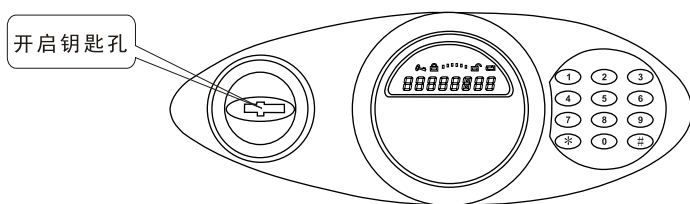
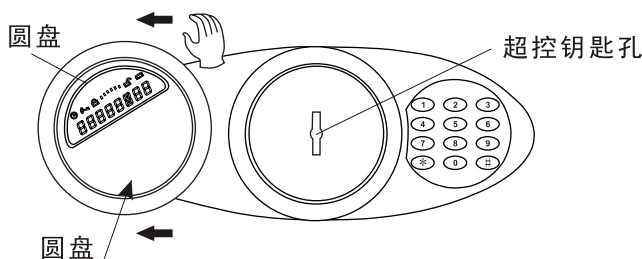

图4 面板
图6
- 按照第7页图6所示，逆时针  旋转面板上的圆盘并取下，可看见后面的超控钥匙孔，再按照第4页图3所示，先将超控钥匙插入应急钥匙孔并顺时针  转动到位，然后将主钥匙插入第4页图4所示的开启钥匙孔，顺时针  转动到位，将门打开。
- Turn the LCD mounting disc counterclockwise and remove it from the panel (Figure 6, P.7 in User's Manual). Locate the override keyhole behind the disc. Insert the override key (Figure 3, P.4 in User's Manual) into its keyhole and turn it clockwise to the end, then insert the lock key into the door-opening keyhole (Figure4, P.4 in User's Manual) and turn it clockwise to the end to open the door.
请将保险箱的主钥匙插入面板上的开启钥匙孔（见图3和图4）；